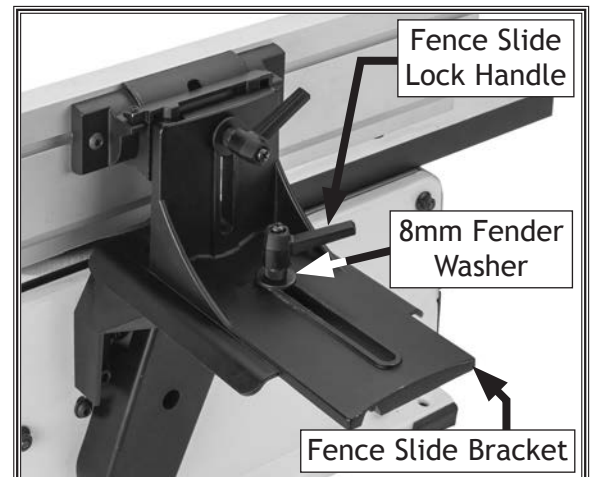

Figure 13. Fence slide lock handle and flat washer inserted in center of brackets.
5. Place fence slide bracket on fence support bracket and insert fence slide lock handle and 8mm fender washer through center of brackets (see **Figure 13**).